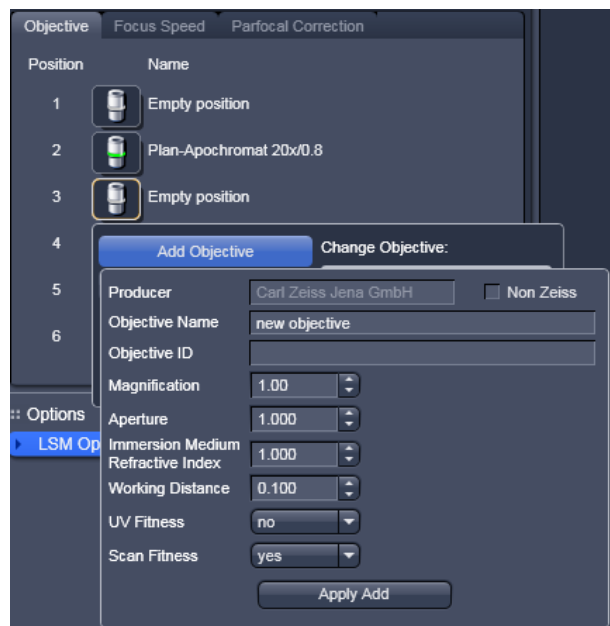

Fig. 152 Editing a new objective
- An expansion (**Create new Objective**) window is opened (Fig. 152).